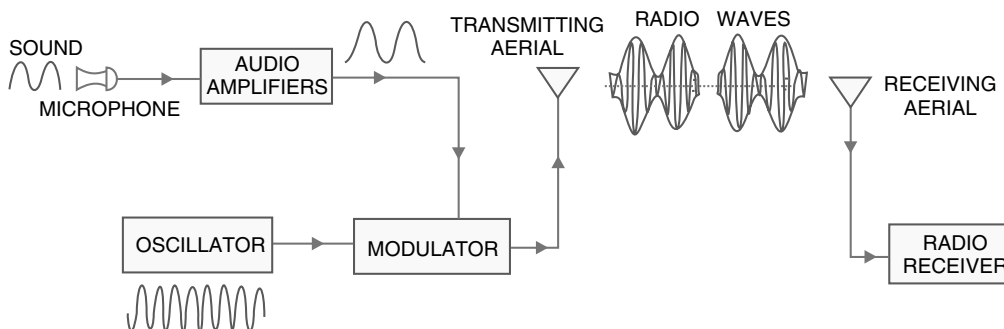

Fig. 14.1
Radio communication means the radiation of radio waves by the transmitting station, the propagation of these waves through space and their reception by the radio receiver. Fig. 14.1 shows the general principles of radio broadcasting, transmission and reception. As a matter of convenience, the entire arrangement can be divided into three parts *viz.* *transmitter*, *transmission of radio waves* and *radio receiver*.
**1. Transmitter.** Transmitter is an extremely important equipment and is housed in the broadcasting station. Its purpose is to produce radio waves for transmission into space. The important components of a transmitter are microphone, audio amplifiers, oscillator and modulator (See Fig. 14.1).
(iii) **Oscillator.** The function of oscillator is to produce a high frequency signal, called a *carrier wave*. Usually, a crystal oscillator is used for the purpose. The power level of the carrier wave is raised to a sufficient level by radio frequency amplifier stages (not shown in Fig. 14.1). Most of the broadcasting stations have carrier wave power of several kilowatts. Such high power is necessary for transmitting the signal to the required distances.